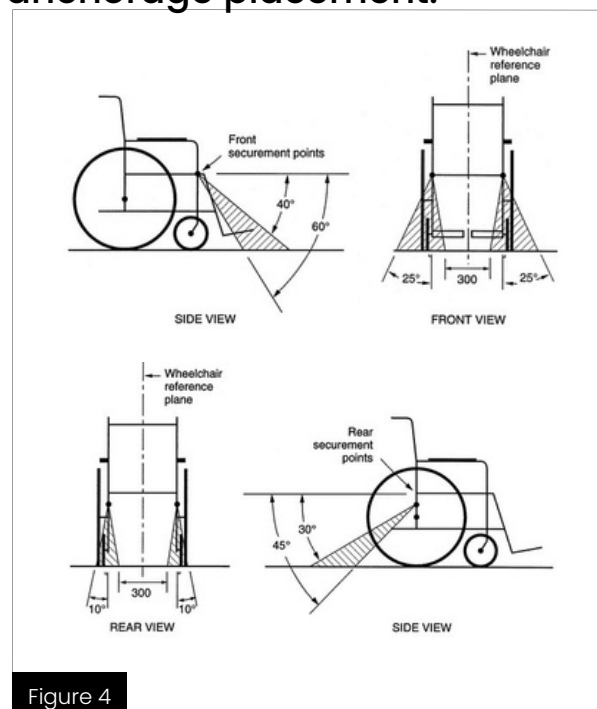

Figure 4
* Note: Recommended distances are based on common wheelchair sizes. Exceptionally large or small wheelchairs may require anchorage spacing that differs from our recommendation. Consider optimal tiedown angles (Figure 4) to determine exact placement of floor anchorages.
- The optimal angle of tiedowns for crash protection and maximum stability of the wheelchair is depicted in Fig 4.
- The distance (D) between tiedowns should be 12" (305 mm)